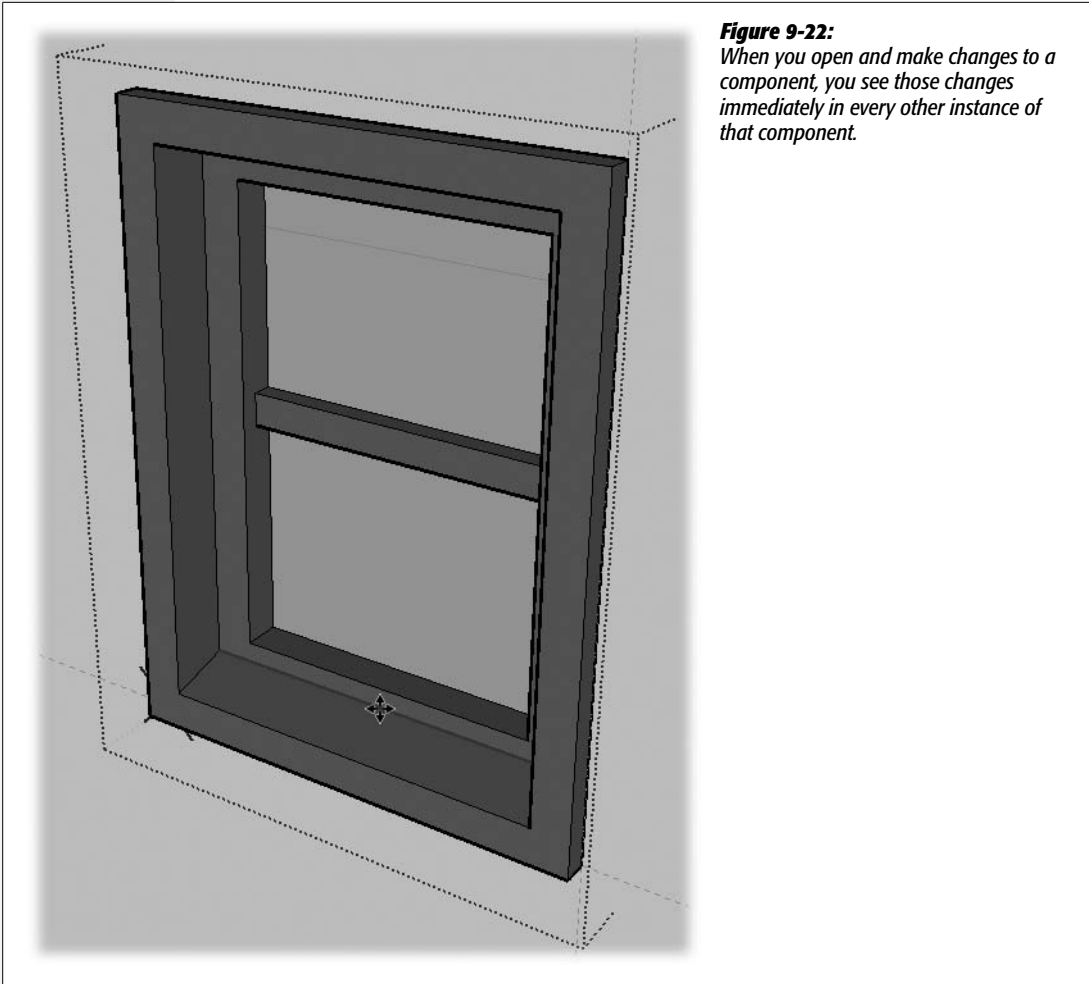

Figure 9-22:
5. With the Move (M) tool, select the edge where the windowsill meets the window frame, and then pull the edge up in the blue direction (Figure 9-22).